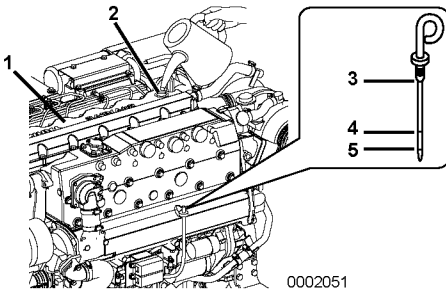

Figure 4
2. Remove dipstick (**Figure 4, (3)**) and wipe with clean cloth.
4. Remove dipstick. The oil level should be between upper (**Figure 4, (4)**) and lower (**Figure 4, (5)**) lines on the dipstick.
1. NOTICE: Prevent dirt and debris from contaminating engine oil. Carefully clean the dipstick, filler port cap and the surrounding area before you remove the cap. Remove the yellow oil filler port cap (**Figure 4, (2)**) at the top of the rocker arm cover (**Figure 4, (1)**) and fill with engine oil.
2. Fill with engine oil to the upper limit (**Figure 4, (4)**) on the dipstick (**Figure 4, (3)**). Insert the dipstick fully to check the level. NOTICE: NEVER overfill the engine with engine oil.
- “Full” means the oil amount at the upper limit (**Figure 4, (4)**) on a dipstick.
- “Effective” means the difference between oil amount at upper limit and that at lower limit (**Figure 4, (5)**).
3. Hand-tighten the filler port (**Figure 4, (2)**) cap securely.